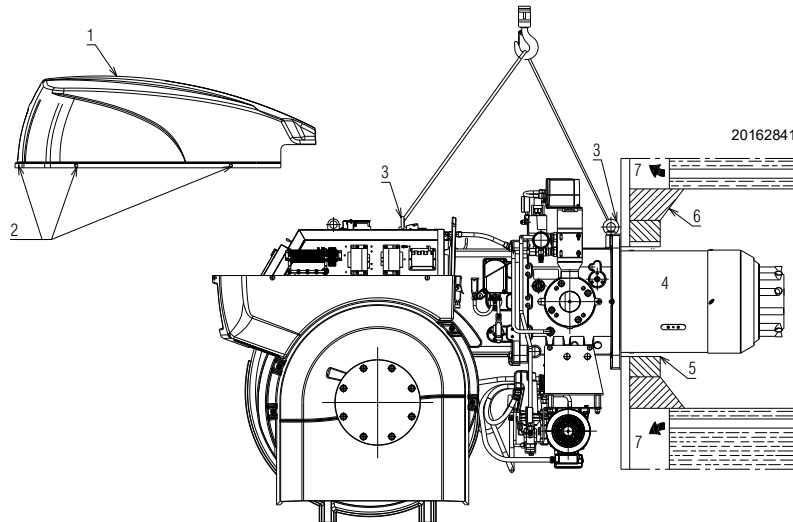

Fig. 14
For boilers with front flue passes 7)(Fig. 14) or flame inversion chambers, protective fettling in refractory material 5) must be inserted between the boiler fettling 6) and the blast tube 4).
Prepare a suitable lifting system using the rings 3) after having removed the casing 1) unscrewing screws 2)(Fig. 14).
- Fit the entire burner onto the boiler hole, prepared previously, as in Fig. 14, and fasten with the screws supplied.